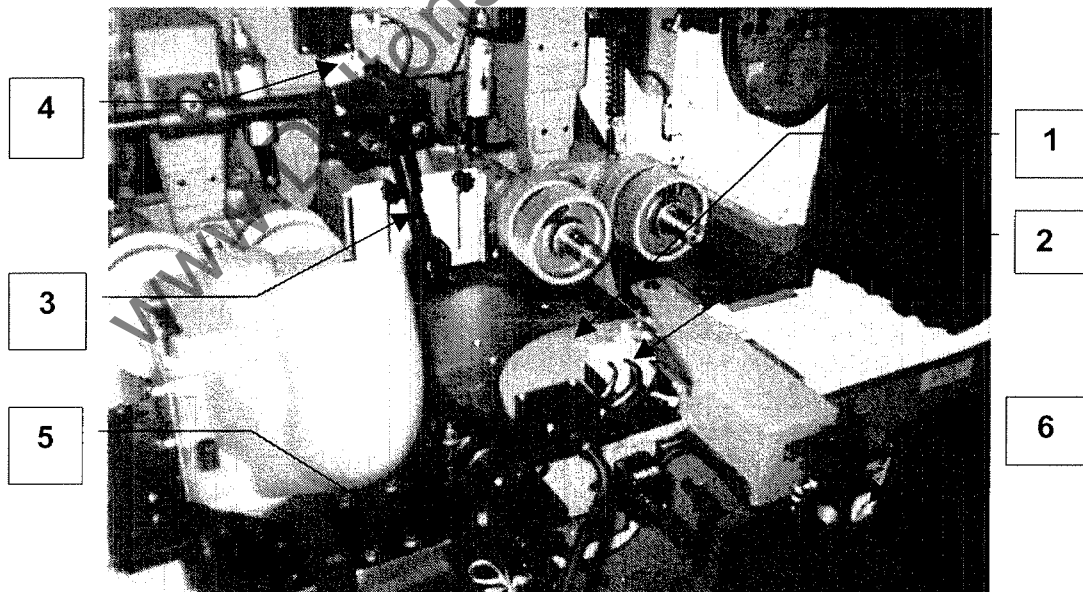

Figure 8.4
8.4 Random Side Head (Figure 8.4)